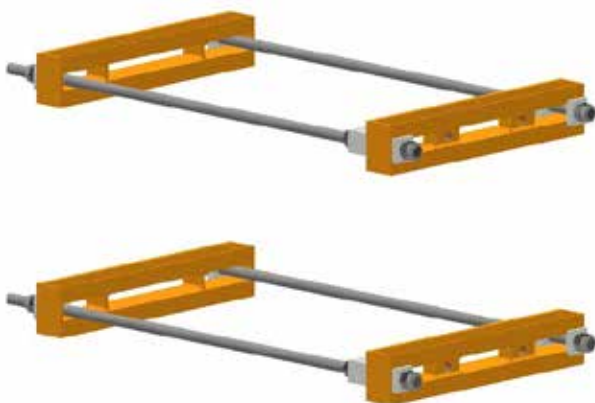

fig.16
2. Verify the absence of clear defects of the support/anchoring structures (fig.16);